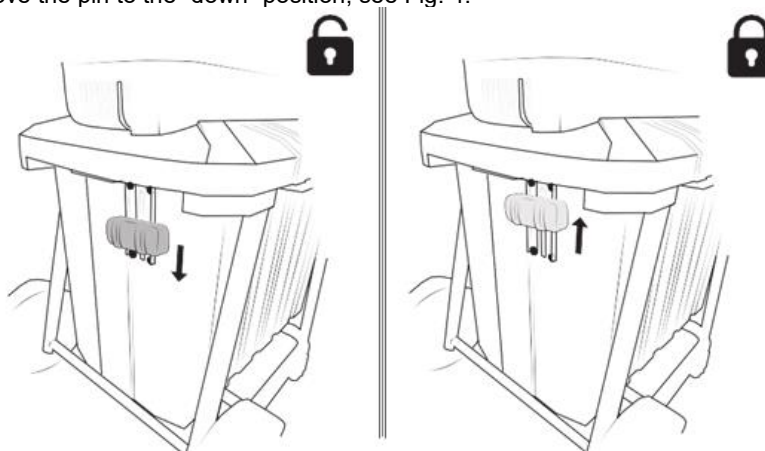

Fig. 4
To open the container, move the pin to the “down” position, see Fig. 4.
- 1) Make sure the waste container pin is locked, see Fig. 4;